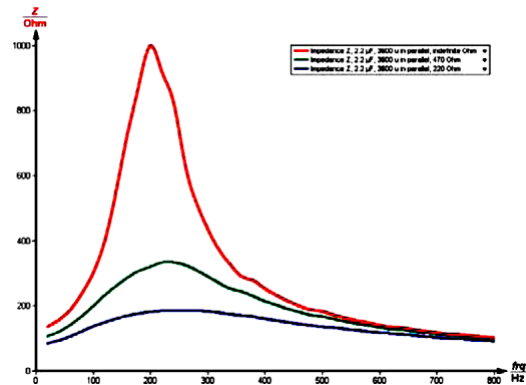

Figure 2.38:
- 3) Record curves with the damping resistor  $R_D = \infty \Omega$  (i.e. no resistor) and  $C = 1 \mu F$  and  $4.7 \mu F$ . Plot the impedance in dependence on the frequency for  $C = 2.2 \mu F$  and  $R_D = \infty \Omega$ ,  $220 \Omega$  and  $470 \Omega$  (Figure 2.38).